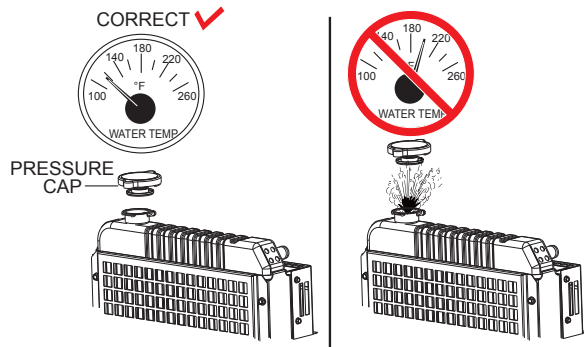

Figure 72. Radiator Pressure Cap Removal
1. Remove the **radiator pressure cap** (Figure 72) only when the coolant temperature is below 120°F (50°C).